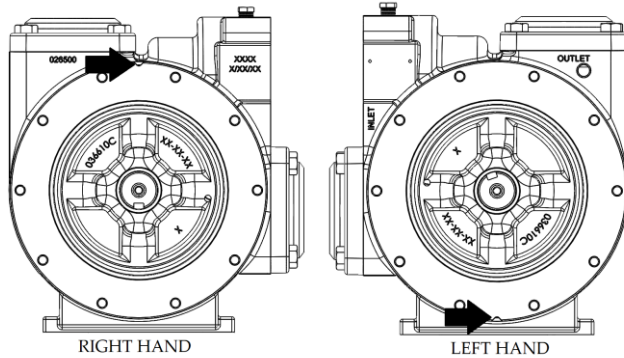

Figure 12 – Inboard Head Orientation
8. Install the inboard head o-ring (72) into inboard head (20). Chemically compatible, high viscosity grease can be used to hold o-ring to aid installation.
9. Install the inboard head and bearing assembly (20) on the pump cylinder with the V-notch up, towards the bottom of the cylinder for right hand builds and down for left hand builds. See Figure 12. Ensure the head is fully seated and bolt holes are aligned with threaded cylinder holes.